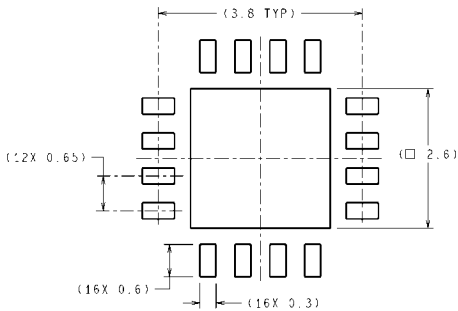

**FIGURE 1. Supply Current vs. Belden 1694A Cable Length, 1.485 Gbps**
**Note 7:** Supply current depends on the amount of cable being equalized. The current is highest for short cable and decreases as the cable length is increased. Refer to *Figures 1, 2*.
The supply current ( $I_{CC}$ ) depends on the amount of cable being equalized. The current is highest for short cable and decreases as the cable length is increased. *Figure 1* shows supply current vs. Belden 1694A cable length for 1.485 Gbps data and *Figure 2* shows supply current vs. Belden 1694A cable length for 270 Mbps data.